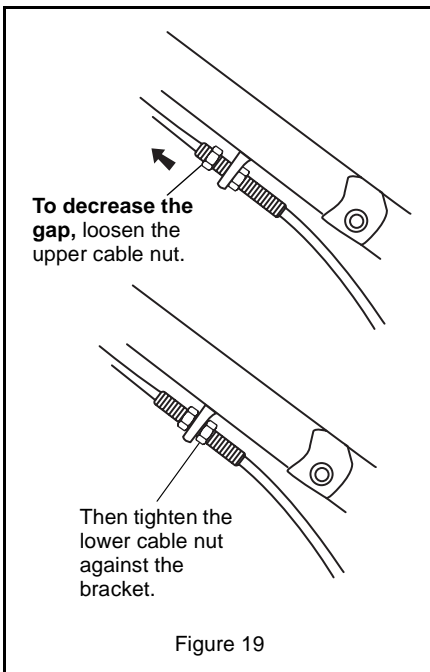

Figure 19
1. Loosen the upper cable nut on the wheel drive control cable, and then tighten the lower cable nut against the adjuster bracket. See Figure 19.